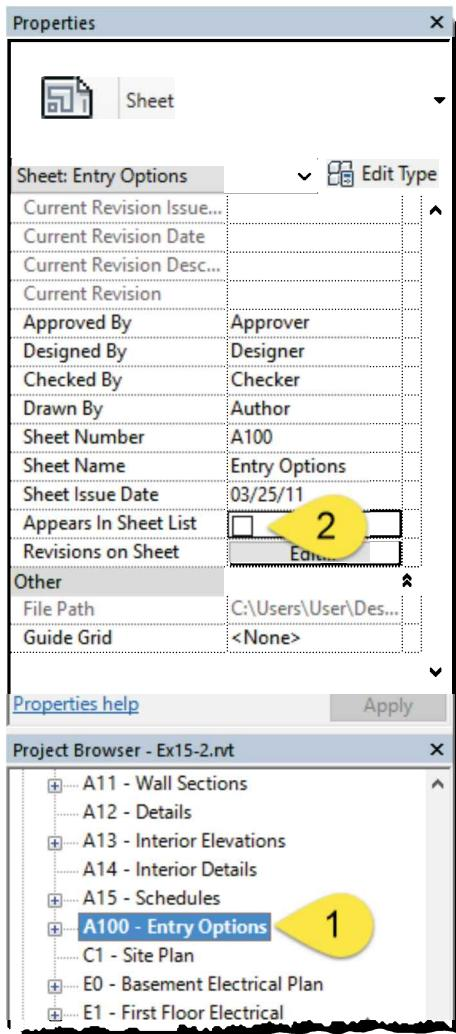

FIGURE 15-2.4 Properties for sheet A100
9. Uncheck **Appears In Sheet List** (Figure 15-2.4) and then click **Apply**.